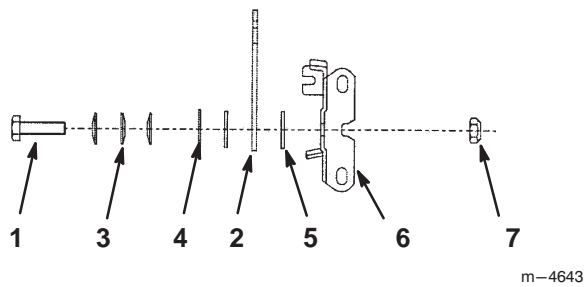

Figure 59
3. Tighten nut and bolt. Test lever and adjust to desired tension (Fig. 59).